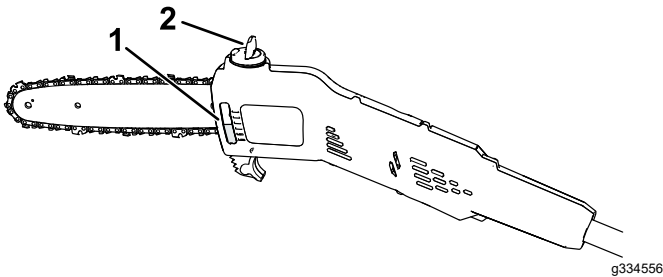

Figure 15
2. Check the oil level in the window. If the oil does not fill the window, add bar and chain oil as needed (Figure 15).
4. Clean the area around the oil cap (Figure 15).
5. Unfold the wing-nut tab on the oil cap, remove the cap, and pour bar and chain oil into the pole saw until the oil fills the tank (Figure 15).